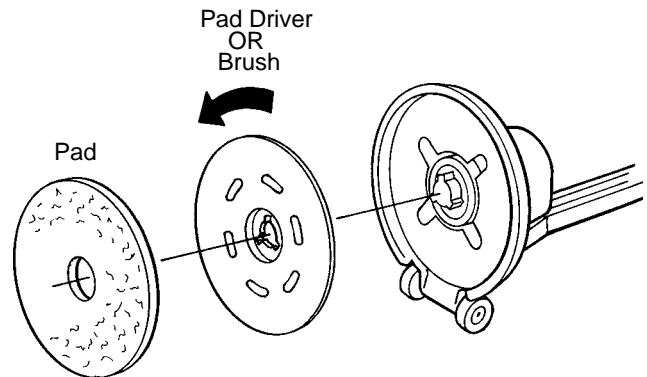

FIG. 1
2. Position the pad driver/brush on the drive motor hub and turn it counter-clockwise to engage (Figure 1).